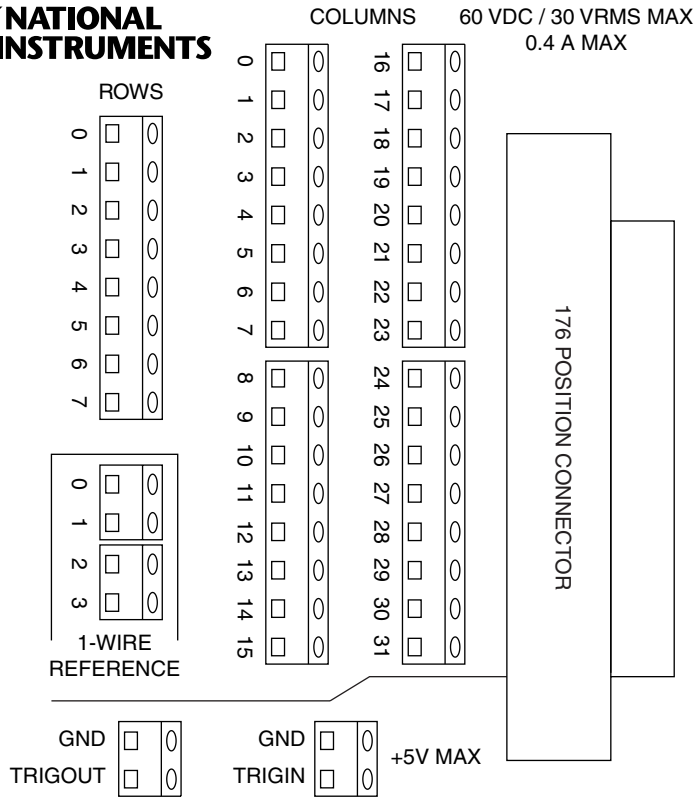

Figure 2. TB-2631 Terminal Reference
6. Connect the cables to the terminals by inserting the stripped end of the cable into the terminal. Secure the connection by tightening the screw for each terminal. When connecting the signals, refer to the connection diagram in Figure 2.